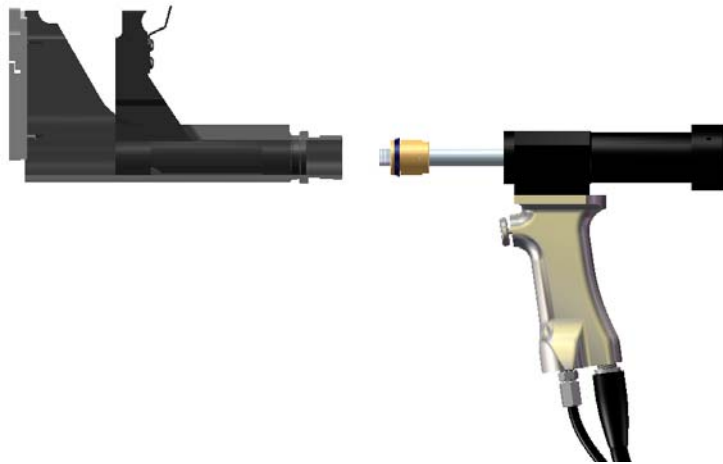

Figure 5-1
2. Thread LB piston rod into LBOA slide assembly then thread LBOA housing into LB housing (Figure 5.1). Ensure the o-ring on LBOA housing is seated at the LB housing.
(Guard not shown in Figure 5-1 for clarity)